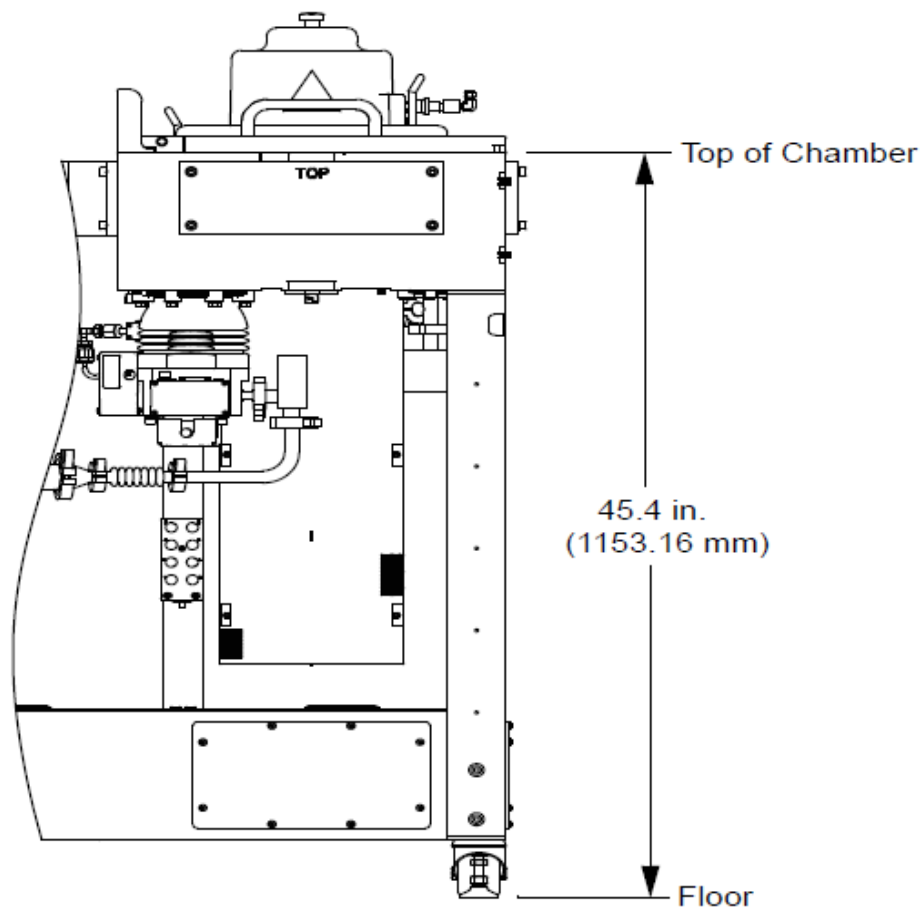
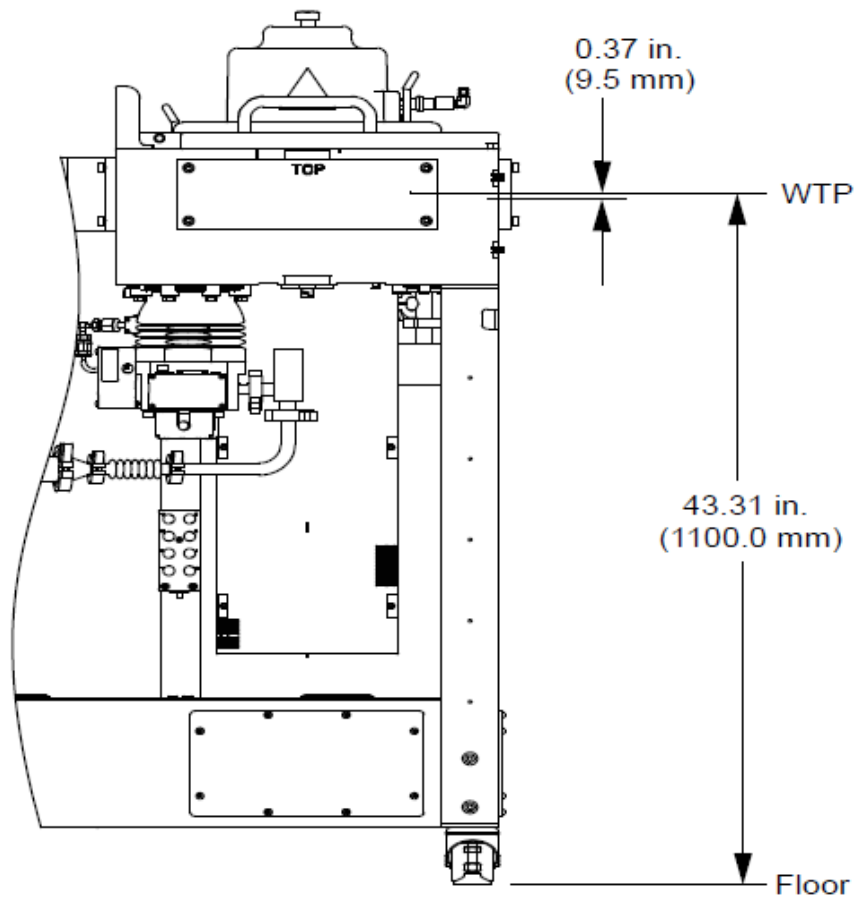
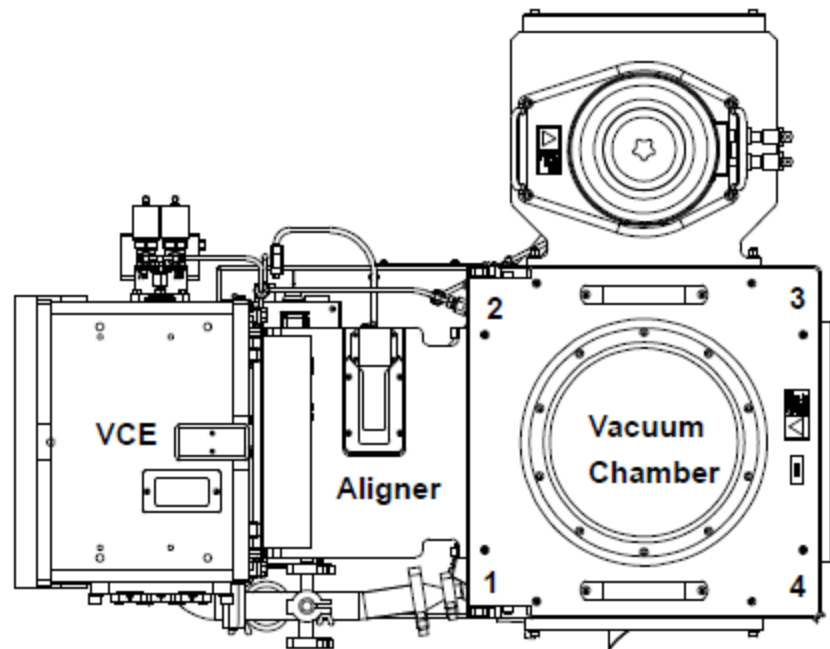

Figure 3-3: Height of Tool for Leveling
Figure 3-4: Wafer Transfer Plane
Figure 3-5: Location Positions of Leveling Feet (procedure reference only)
4.	The correct height of the tool is 1153.16 mm (45.4 inches), measured from the top of the chamber to the floor. Refer to Figure 3-3. This will establish the Wafer Transport Plane (WTP) at the SEMI MESC height of 1100.0 mm (43.31 in) per SEMI E21. Refer to Figure 3-4. Beginning with the leveling foot located at position 1, adjust the foot until the height of the tool from the top of the chamber to the floor is 1153.16 mm (45.4 inches). Refer to Figure 3-5.
5.	Place a spot level (or bubble level) on the corner of leveling foot at position 1 (Refer to Figure 3-5) and jack leveling feet at positions 2, 3, and 4 until the system is level all around.